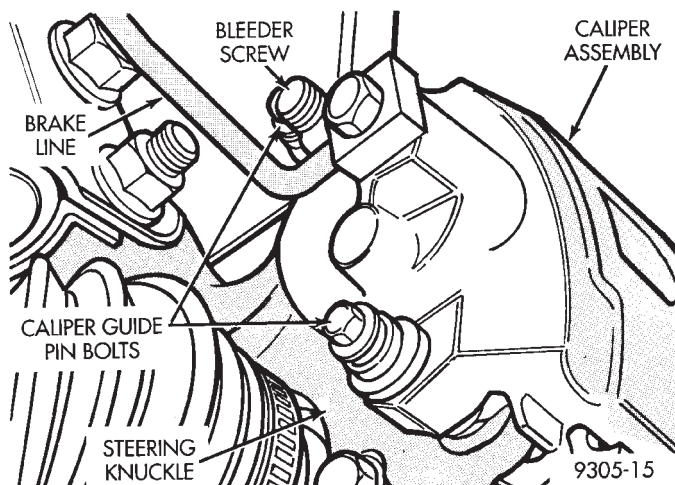

**Fig. 61 Caliper Mounting**
(1) Raise vehicle on jackstands or centered on a frame contact type hoist. See Hoisting in the Lubrication and Maintenance section of this manual, for the required lifting procedure to be used for this vehicle.
(2) Remove the 2 guide pin bolts mounting the caliper assembly to the steering knuckle (Fig. 61). Remove the caliper from the front steering knuckle. Refer to Disc Brake Caliper in the Removal And Installation Section in the Brake Group of this service manual for the caliper removal procedure.
(4) Install front brake caliper back over braking disc and align with caliper mounting holes on steering knuckle. Refer to Disc Brake Caliper in the Removal And Installation Section in the Brake Group of this service manual for the caliper installation procedure. Install the caliper to steering knuckle guide pin bolts (Fig. 61) and tighten to a torque of 19 N·m (168 in. lbs.).
(5) Install wheel and tire assembly on vehicle. Tighten the wheel mounting stud nuts in proper sequence until all nuts are torqued to half specification. Then repeat the tightening sequence to the full specified torque of 129 N·m (95 ft. lbs.).
(6) Lower the vehicle to the ground.